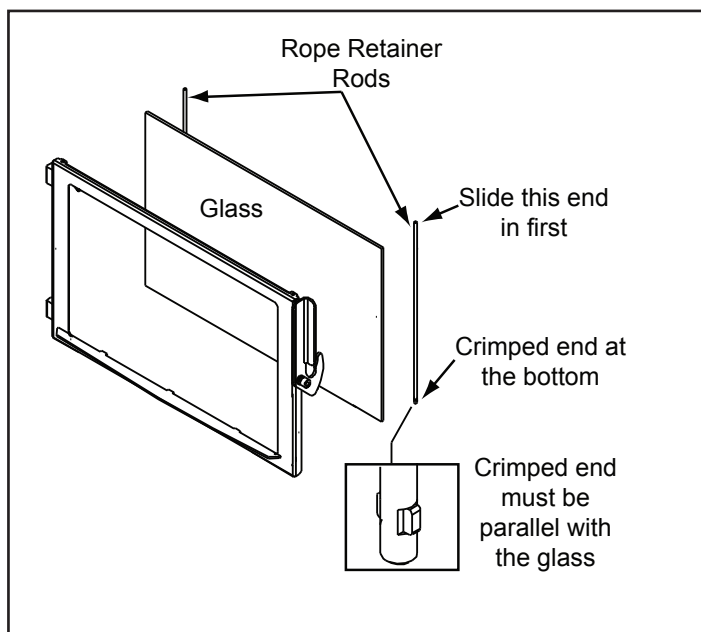

Figure 20.1
4. Slide the retainer rod into the top hole first, and then line up the bottom crimped end with the hole in the door. The crimped end must be parallel with the glass in order to insert it into place. **Figure 20.1.**